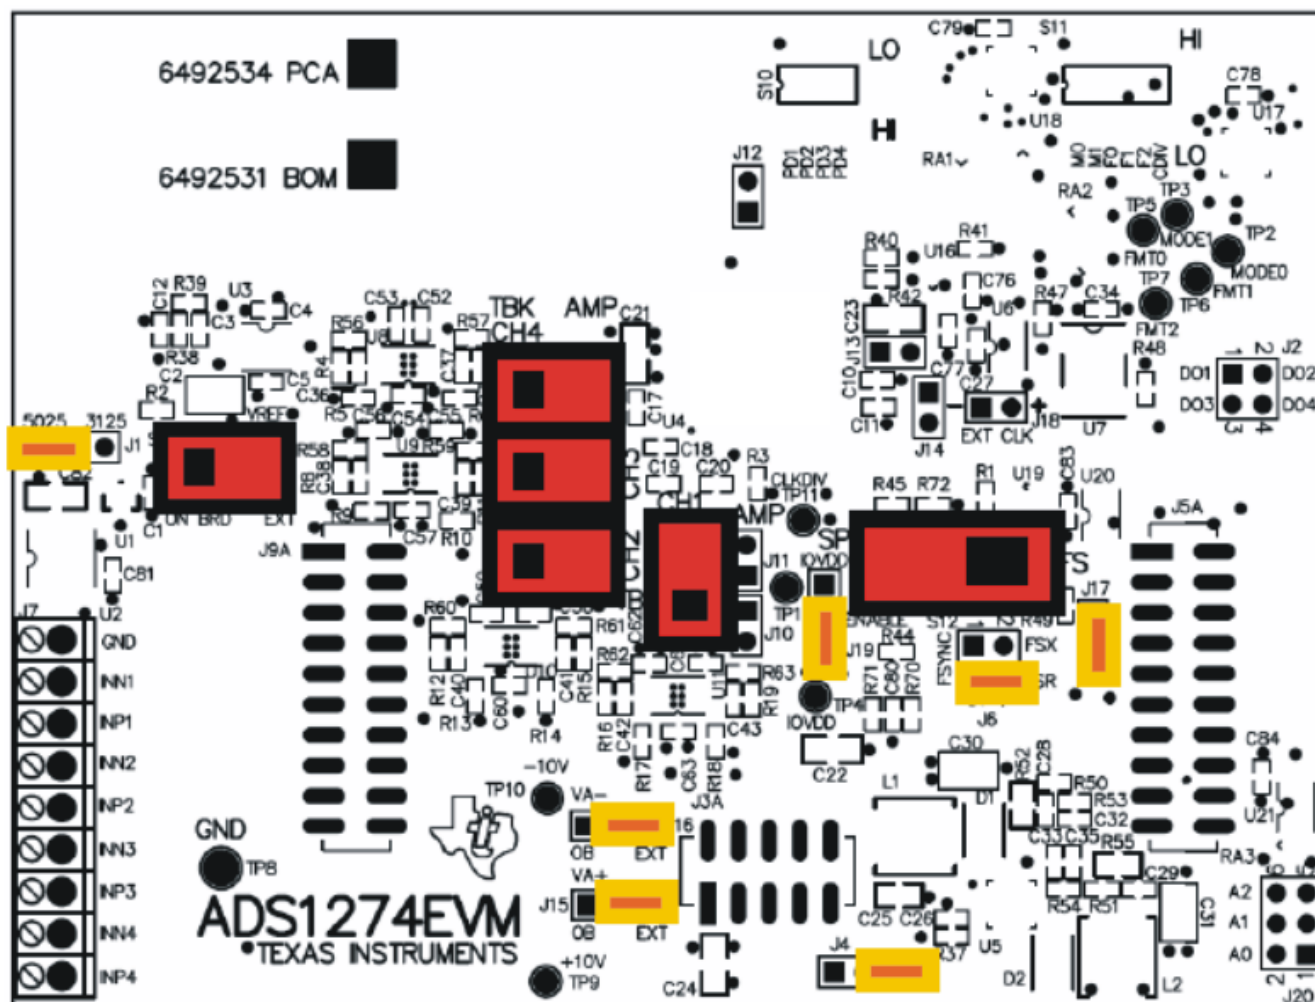

Figure 8. ADS1274EVM Default Jumper Locations
Figure 8 shows the jumpers found on the EVM and the respective factory default conditions for each.
Step 4. Set the jumpers and switches on the ADS1274EVM as shown in Figure 8 (note that these settings are the factory-configured settings for the EVM). Note that the default configuration for the EVM is to use external $\pm 10V$ supplies for the input amplifiers.